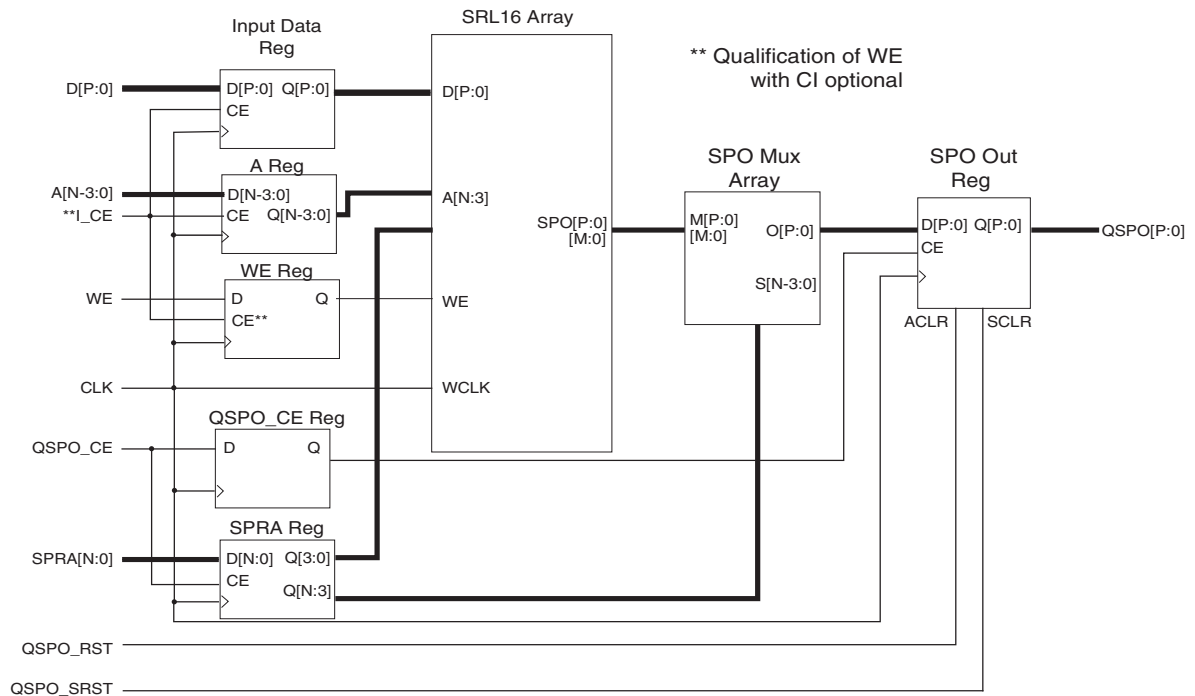

Figure 8: SRL16-Based RAM Module Schematic
- **SRL16-Based RAM.** Figure 8 illustrates a schematic of the structure of the SRL16-based RAM module. The address and data registers are optional (controlled by the setting of the Input Options parameter). Output registers are also optional (controlled by the setting of the Output Options parameter). The resets and clock enables are optional. When the project family is set to Virtex-6, Virtex-5, or Spartan-6, this option will be greyed-out.